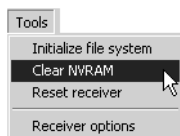

Figure 4-14. Tools->Clear NVRAM
2. Click **Tools->Clear NVRAM** (Figure 4-14). The REC LED rapidly flashes green and red; the STAT LED flashes red.